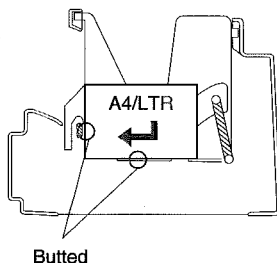

Figure 5-109 (top view)
- 5) Place about a single sheet of A4 or LTR copy paper in the bin as shown in Figure 5-109.